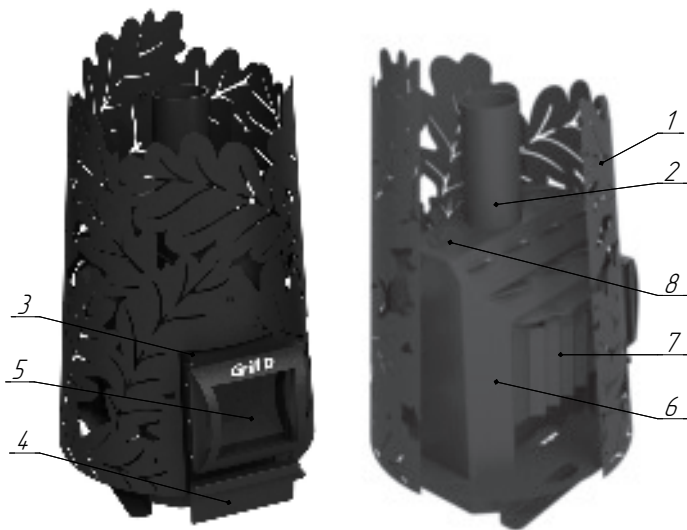

Fig. 3 Heater main elements
Overall view and location of the heater main elements are shown in Figure 3. The firebox of Dubravo heater (6) is fabricated of high duty rolled steel. Use of such steel increases the heater's durability and service life taking into account the firebox wall thickness of 3 mm, while the most critical elements are made of 5 mm thick steel.